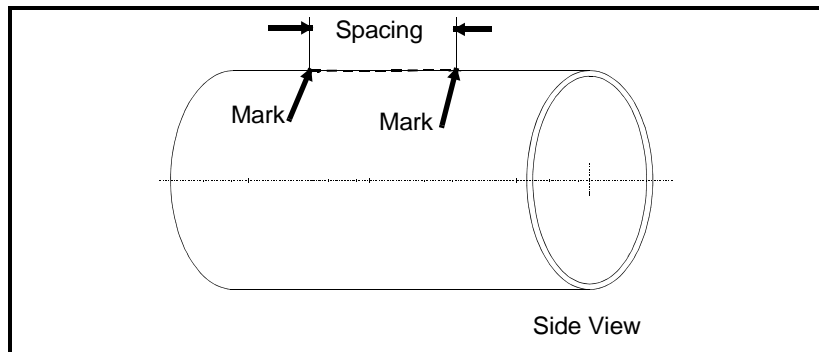

Figure 1-11: Marks for Transducer Spacing on Inscribed Line
5. Make two marks (shown in Figure 1-11 below) on the line equal to the transducer spacing distance S , as calculated by the meter.